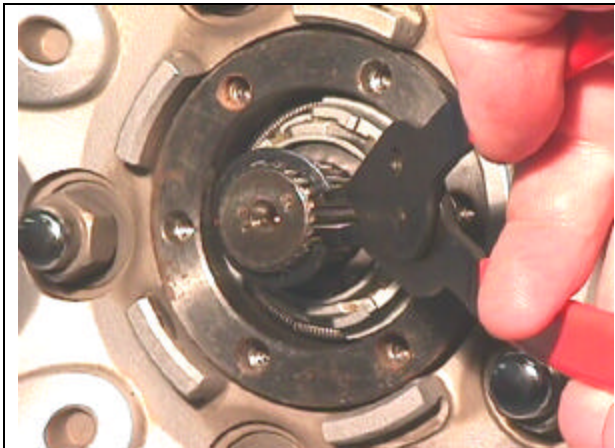

Figure 3
4. Remove the snap-ring, and thrust washer from the axle shaft as shown in Figures 3 and 4.